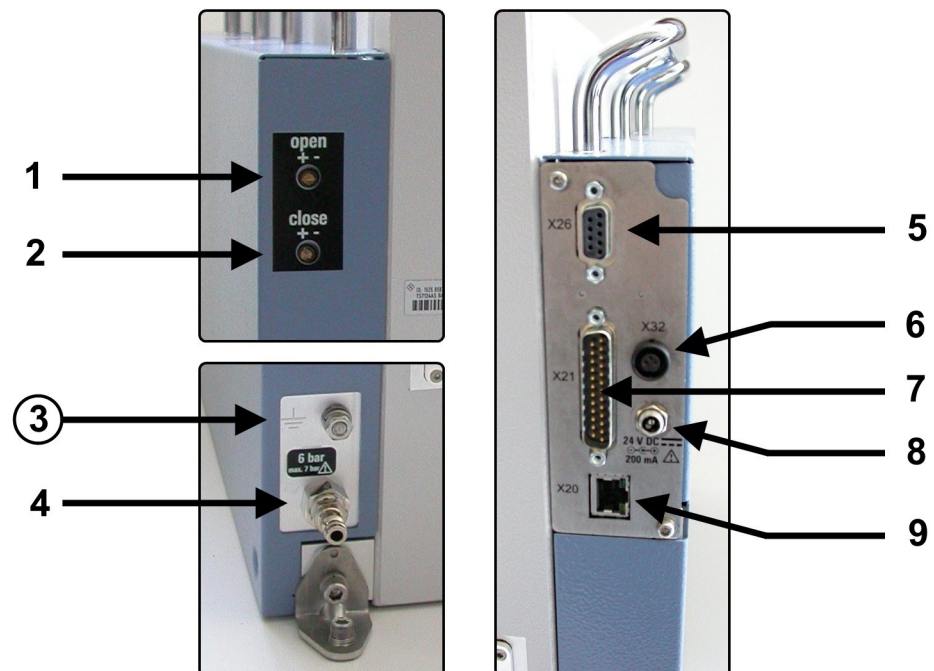

Figure 6-9: Detail views of the left and right arrays of supply and control connectors and control screws on the rear side of the R&S TS7124AS
The quick-coupling plug KS3-1/8-A (labeled 4 in Figure 6-9) is delivered with an additional push-pull adapter to 6 mm diameter flexible tubing for compressed air.
2. For remote control via a **serial port**, connect an RS-232 cable from your control system to the D-Sub 9 connector (see [X26] in Figure 6-9).
3. For remote control via **Ethernet**, connect a LAN cable from your control system to the RJ45 connector (see [X20] in Figure 6-9).